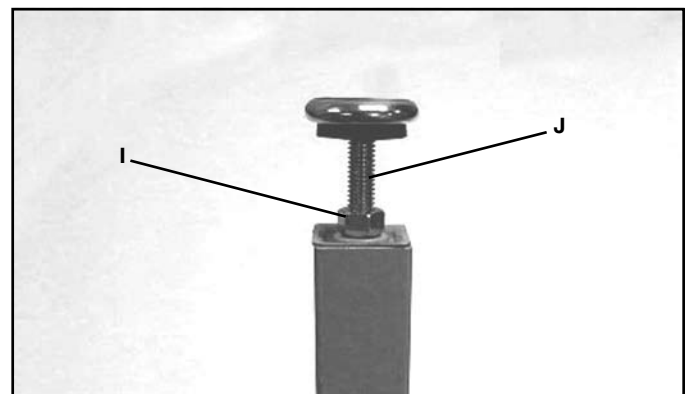

FIG. 18
8. Assemble the 3/8" jam nut (I) onto leveling screw (J). Thread leveling screw into foot adapter. Fig. 18 illustrates the foot leveling assembly on the table leg. Assemble the remaining foot assembly to the other leg in the same manner. **NOTE: Height adjustments will be made later.**